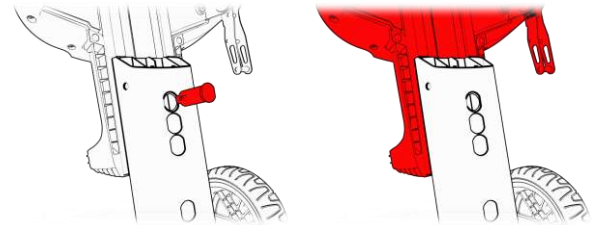

Figure 25 Seat height adjustment holes
one of the four adjustment holes). Keep holding the seat in its place! Remove the pin while holding the seat with your other hand (see Figure 25, step 3).
4. Now you can adjust the seat height to any of the four holes and reinsert the pin to hold it in place (see Figure 25, step 4).